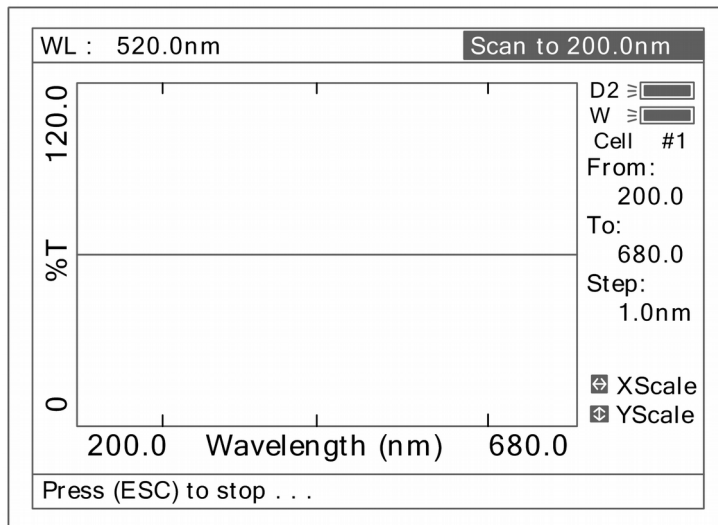

Fig 44
3. Put the blank cuvette into the Reference Light Path and Main Light Path, press **(ZERO)** to scan the base line (Fig 44). Press the key **(ESC/STOP)** to stop scanning;